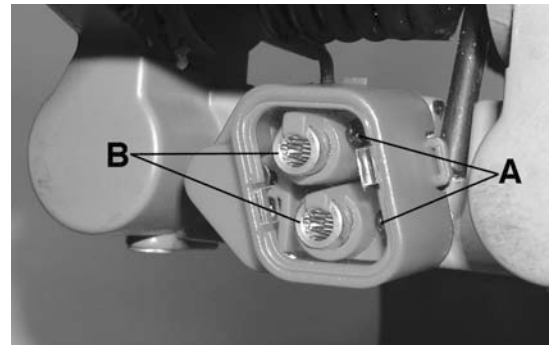

Figure 15
2. Loosen pan head screws (A) Fig.15 next to each laser guide (B).
4. Turn both laser tips (B) until the laser beams are perfectly aligned with both sides of the blade kerf, once aligned, hold laser tip and retighten pan head screw (A) to prevent the laser dial from moving. Repeat for the second laser tip.